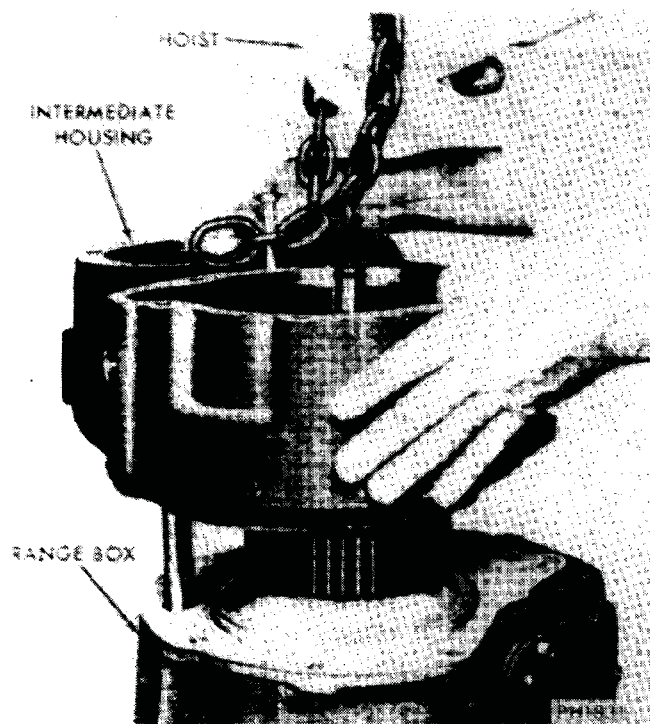

Fig. 16—Removing Intermediate Housing
(14) Remove bolts attaching intermediate chain housing to range box. Lift or with chain hoist, remove intermediate housing from range box (Fig. 16).
(15) Remove chain from intermediate housing.
(16) Remove lockout clutch, drive gear and input shaft assembly from range box. A 1-1/2 to 2 inch band type hose clamp may be used to retain the 123 roller bearings on the input shaft.
(17) Pull up shift rail and disconnect from link.
(18) Lift input shaft assembly from range box. See "Disassembly of Subassemblies" for further disassembly procedures.